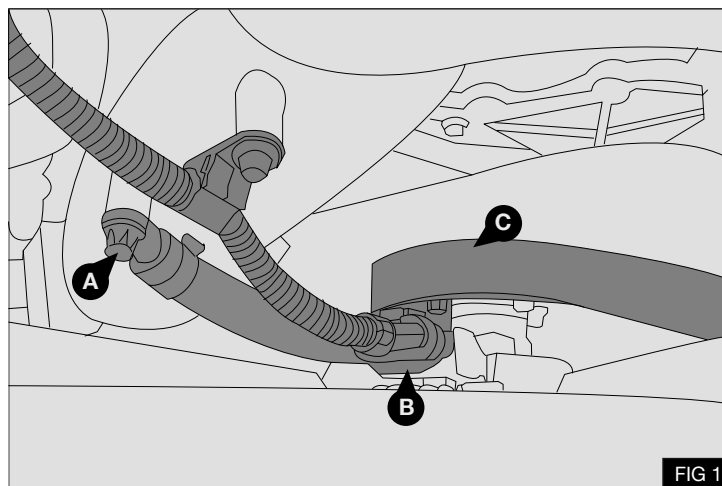

FIG 1
1. Remove and retain bolt (A) securing the fan support tube - Fig 1
2. Disconnect the wiring plug (B) from the fan assembly - Fig 1
3. Remove and discard the original stretch belt (C) - Fig 1
1. Refit the bolt (A) securing the fan support tube. Reconnect the wiring plug (B) to the fan assembly - Fig 1